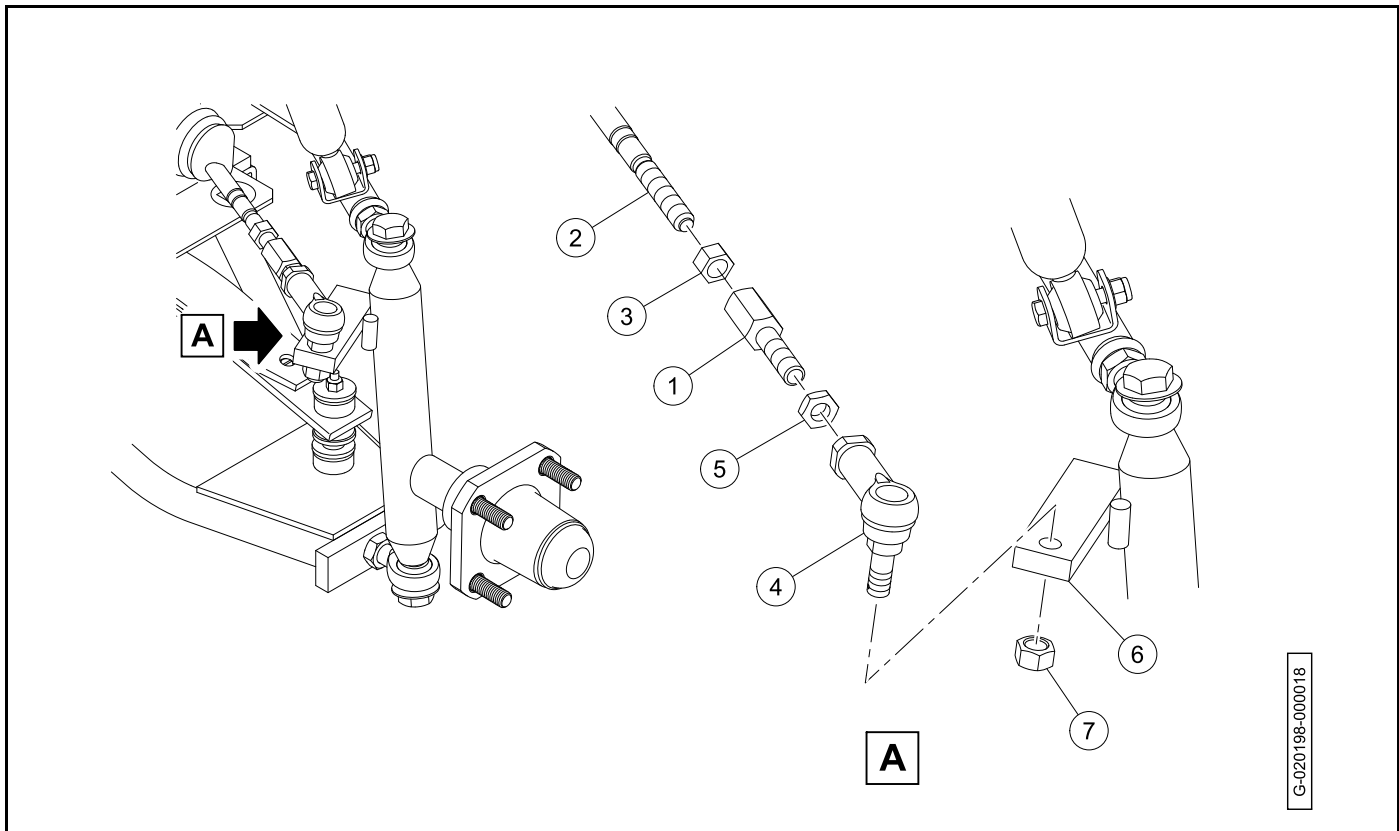

Figure 7-37
1. Thread the drag link extension (1) onto the drag link (2) to a depth of 1/2 inch (12.5 mm) and snug the jam nut (3) (Figure 7-37). Do not tighten until the camber and tow-in are aligned .